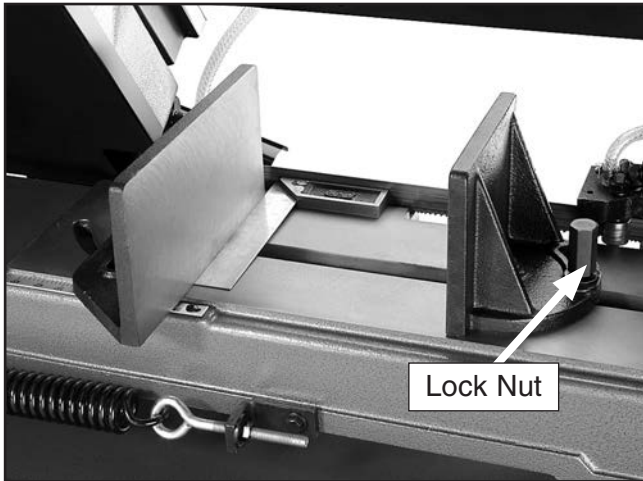

Figure 13. Squaring vise to blade.
2. Use the scale as a guide to set your angle or use a machinist square to square the vise to the blade as shown in **Figure 13**.